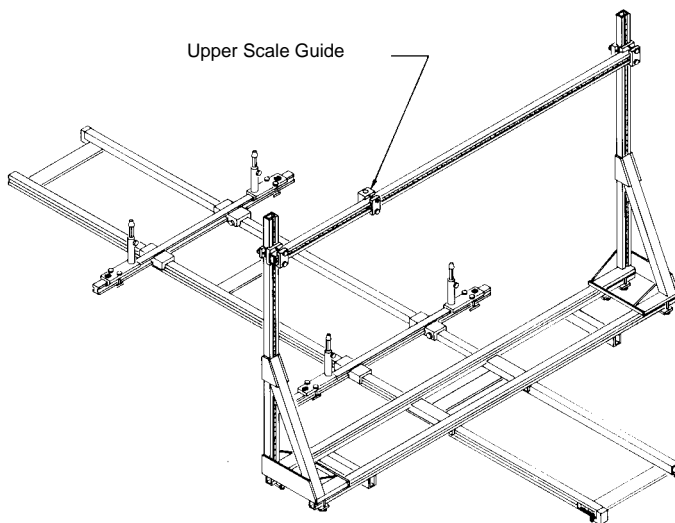

Figure 9
16. Adjust upper scale guides to centerline dimensions. (Directly above \triangle symbol on specification sheet.) (See Figure 9.)